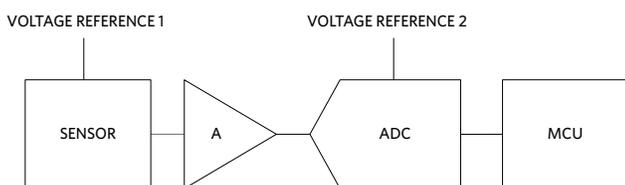

Figure 1. Sensing and measuring unit typical diagram
A diagram of a typical sensing and measuring unit is shown in Figure 1. The sensor converts a physical parameter—such as weight, temperature or pressure—into an electronic signal. The signal is amplified (A), digitized (ADC) and fed to the microcontroller (MCU) for processing. Both the sensor and the ADC require a voltage reference for accurate operation. As such, there can be hundreds of references embedded within the instrumentation of a single industrial plant.